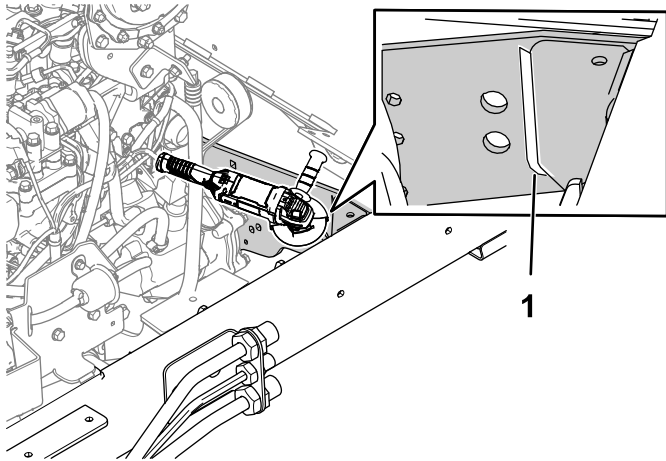

Figure 8
1. Grind down the weld located between the axle support and the corner support as shown in (Figure 8). Repeat on the other side.